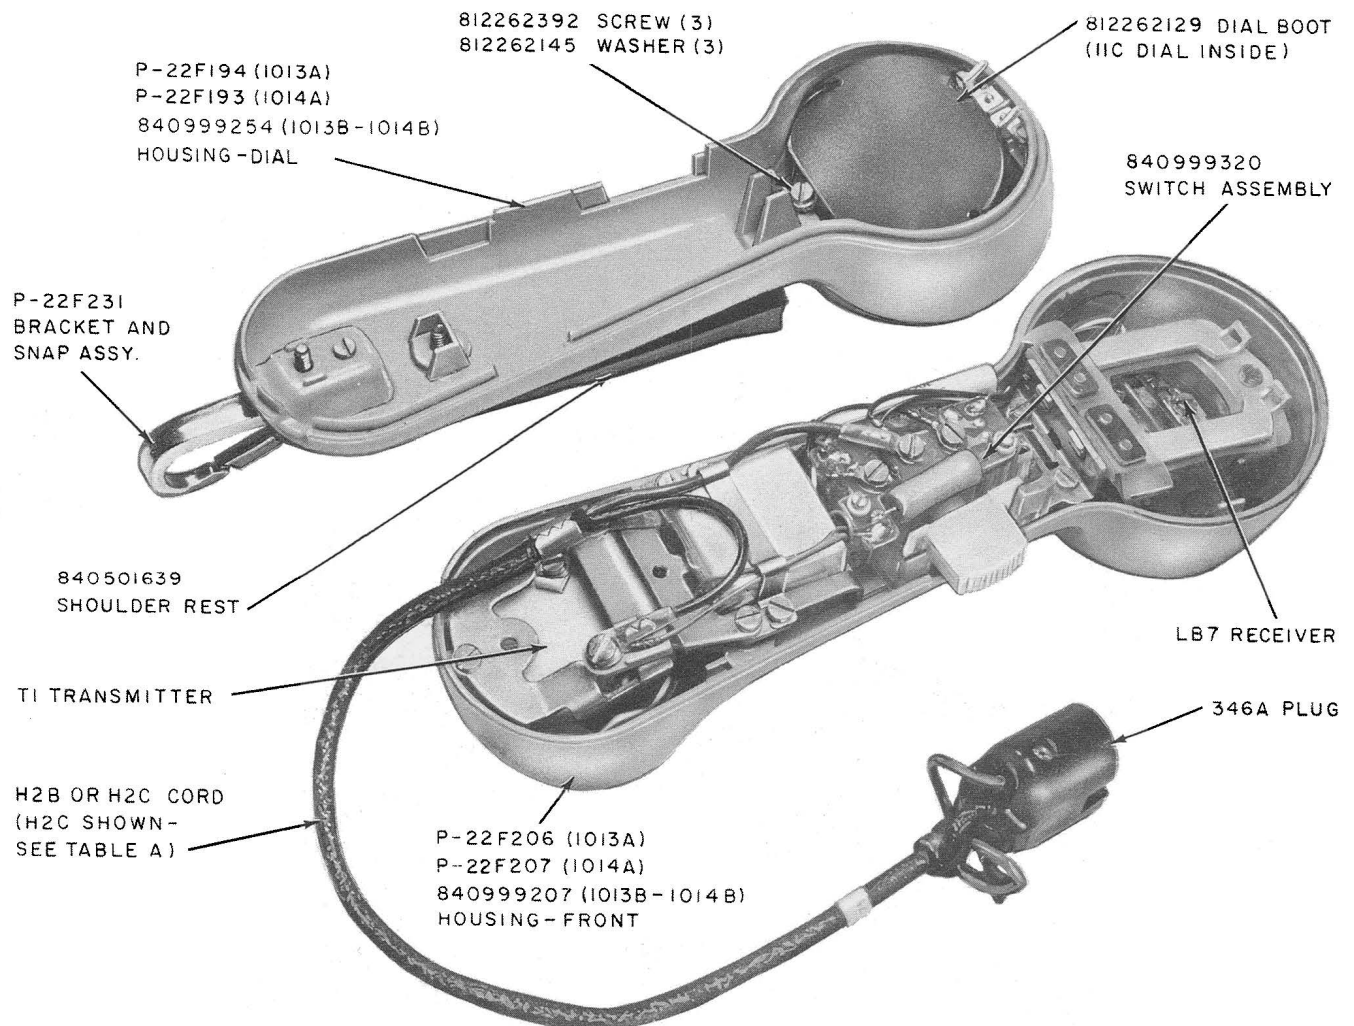

Fig. 3—1013B-1014B Handset—Interior View (1014B Shown)
4.01 These handsets are designed to permit an employee to repair his own set with piece parts as shown in Fig. 3.
4.02 Access to the internal parts may be gained by removing the three housing assembly screws (Fig. 3). One of the screws also serves as a fastener for the P-22F231 bracket and snap assembly.